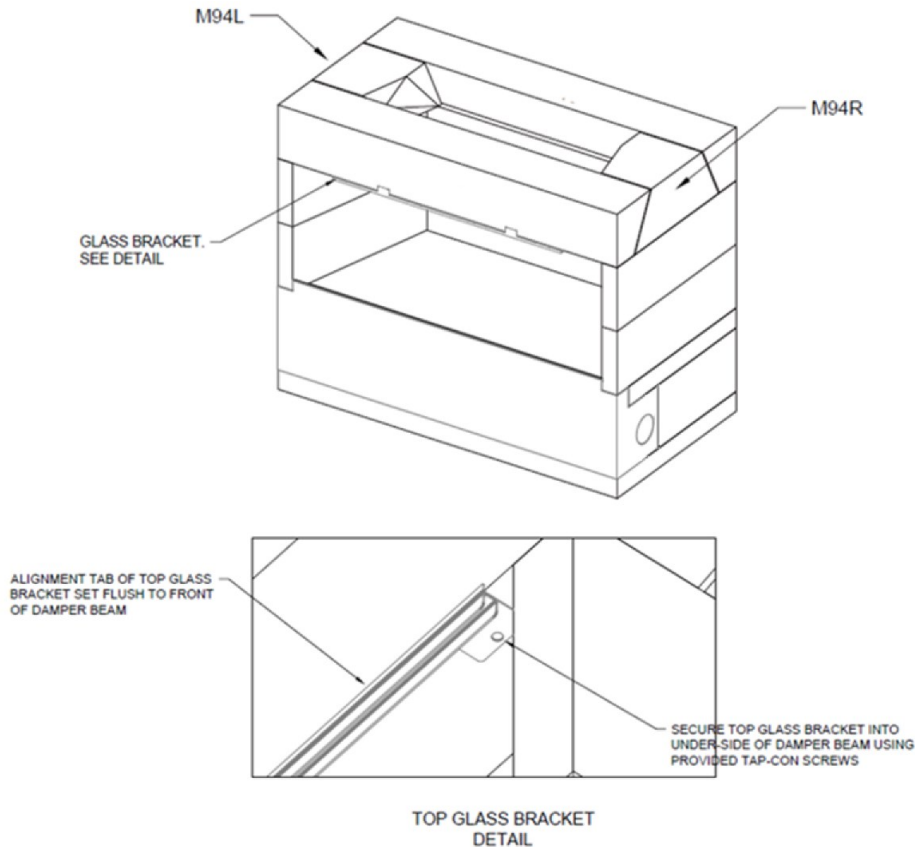

FIGURE 18
- 10) For the 48" model, secure the Top Glass Bracket B (E-TG1) to the underside of the front damper beams using the provided 1/4" tap-con screws. The tap-con screws will require a 3/16" pilot hole to be drilled prior to attachment. It is recommended to coat the 1/4" tap-con screw with Earthcore Adhesive before inserting into pilot hole to create a sealed fastening (**Figure 18**).